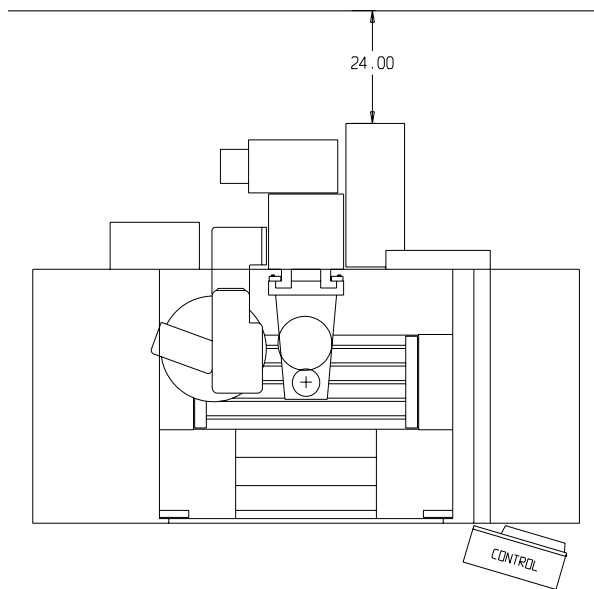

Figure 2-3: 24" Minimum Clearance Behind VMC
2. Ensure there is adequate room behind the VMC to fully open the rear cabinet door. Minimum clearance behind the machine is two feet (24"/ 60.96 cm.) (See Figure 2-3).